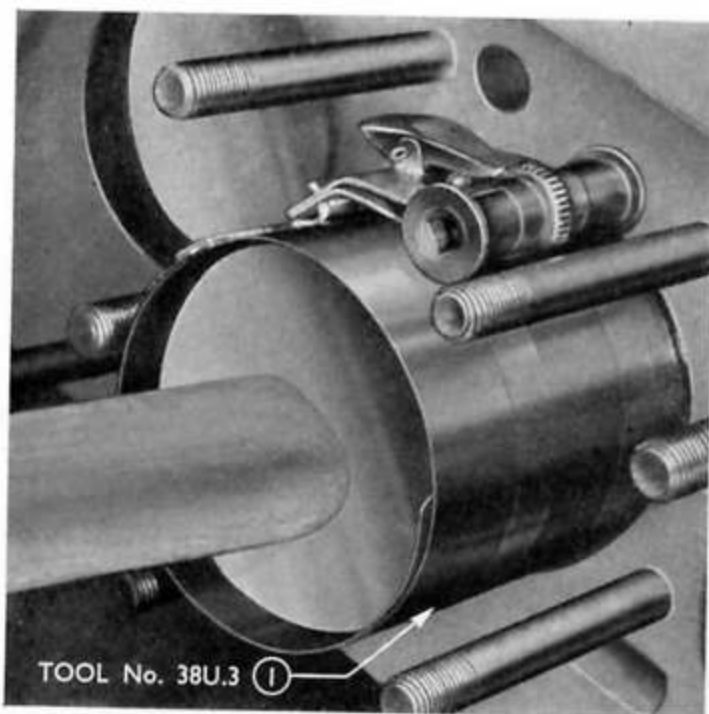

Fig. 49
38.U.3 to compress the piston rings (see Fig. 49). Ensure that the number on each piston is towards the inlet manifold side of the engine.